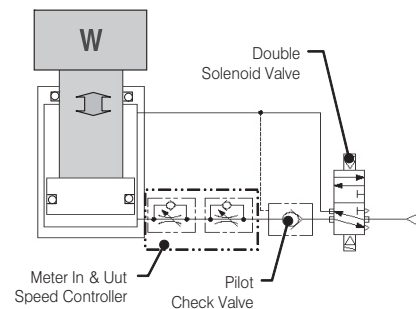

Fig. 3 Double Action Piping
- In case of using double action type RAM cylinder with heavy loading for lift, please carry out piping as it is shown in Figure 3 for safety.